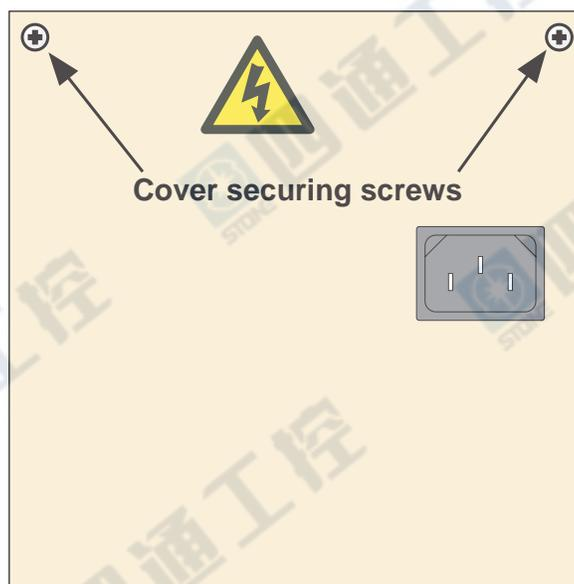

Figure 11.2.2a Retaining screw locations
2. At the rear of the recorder remove the terminal cover securing screws (figure 11.2.2a), taking care to retain them for use in re-assembly.